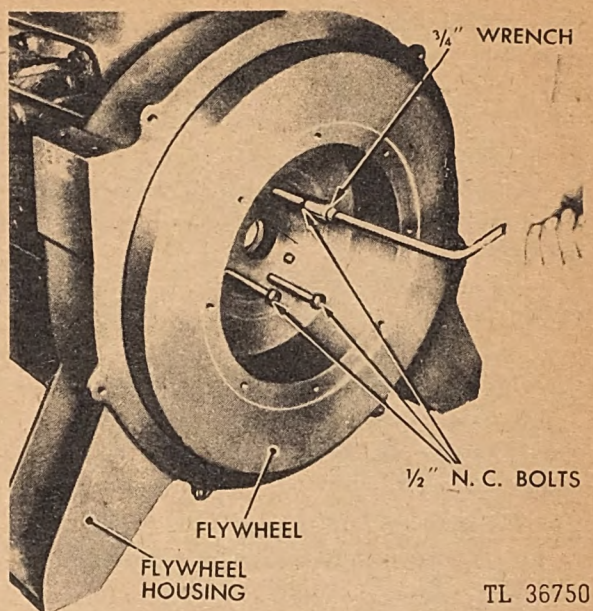

Fig. 98. Removing Flywheel
(2) Insert three  $\frac{1}{2}$ -inch capscrews, N. C. (National Coarse) thread, which should be about 4 inches long, into the three tapped holes in the hub of the flywheel. Screw in the capscrews to push the flywheel off the crankshaft flange. Use the capscrews to lift the flywheel out of the housing. (See Figure 98.)